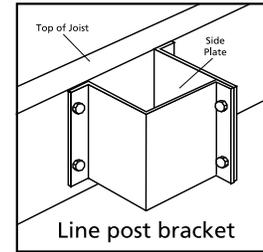
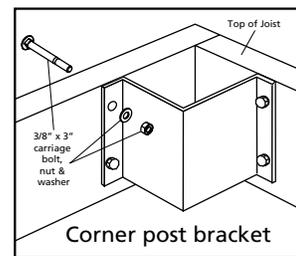

Figure 11
Figure 12
2. Position Joist Mount Bracket flush with top of framing at each post location (Figure 11).
4. For corner posts, remove the side plate from the bracket (Figure 11). Mark hole positions on framing (Figure 12).